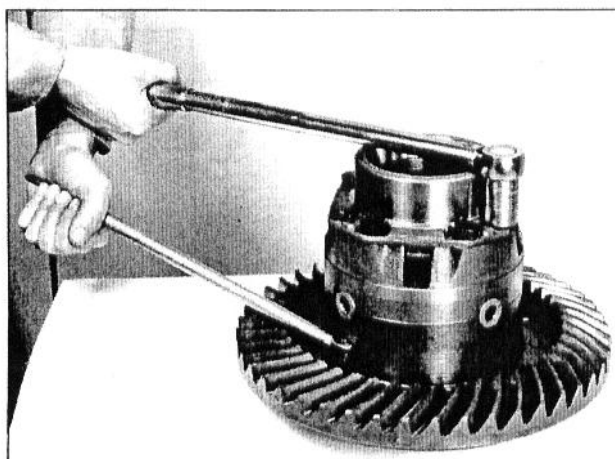

Fig. 77 - Tightening Differential Case Capscrews
8. Install the 8 differential case capscrews and tighten to 76 - 85 ft.-lbs. torque. Refer to Fig. 77.